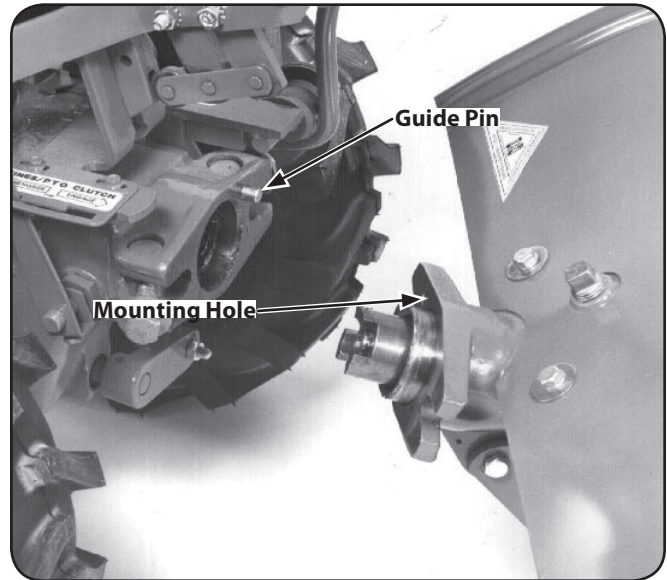

Figure 4-23
10. The guide pin on the power unit will slide out of the guide hole in the tine attachment. See Fig. 4-23.
4. Carefully align the guide pin on the PTO Power Unit with the alignment hole in the tine attachment and bring the two units together. See Fig. 4-23.